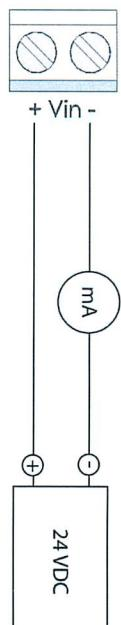

Figure 2 Wiring for 2-wire Output
**- 2-wire output:** see Figure 2. Provide a 24 VDC supply voltage.